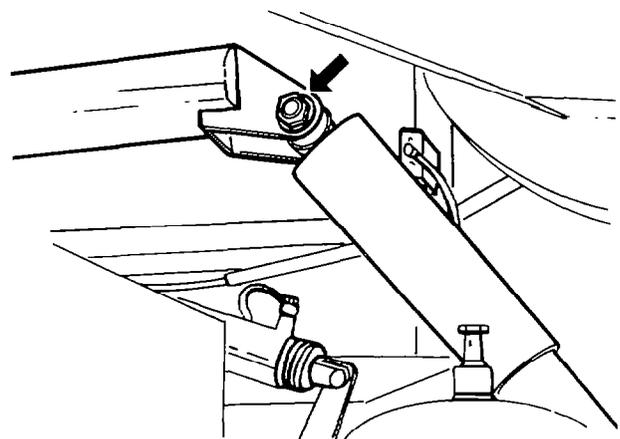

Figure 119 Cargo Tray Damper
- b. Remove the nut and bolt securing the damper to the damper yoke on the RH side cargo tray; detach the damper from the yoke (see Fig. 119).